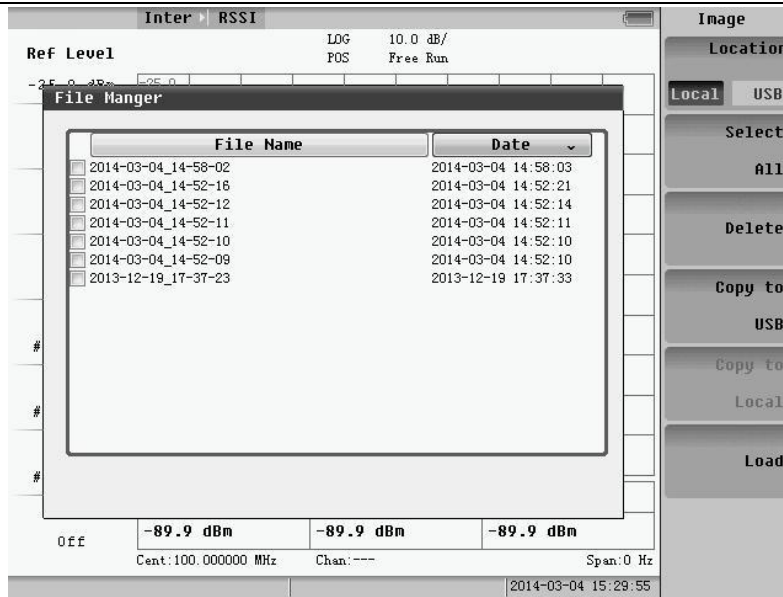

Fig.4.5 Replay choose
**Replay** can choose the history file to replay, shown as Fig.4.5: